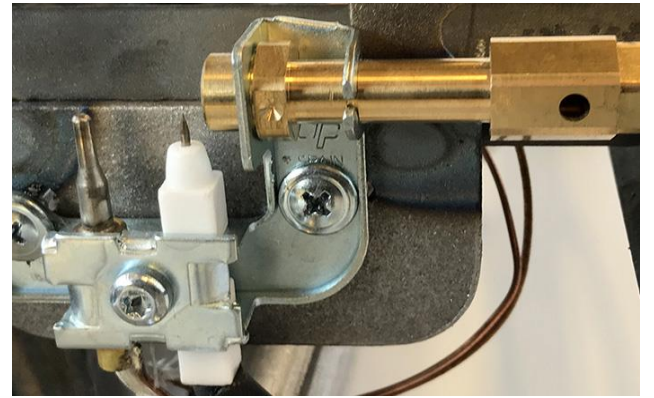

**Figure 1**
21. Perform a periodic visual check of the pilot and burner flame. It should appear as shown in Figure 1.
For each of lighting options described below, adjust the gas flow to have the appearance and flame height as shown in Figure 1. It is important to have a flame that is balanced with glowing embers on the bottom and flames that do not extend too much above the logs. Observe the flames. The main burner flames should be blue at the base and a combination of blue/yellow at the body and the tips. They should be 5" to 8" above the logs, with the center flame being the tallest. Front flames in the ember burner should be 1/4" above the embers.